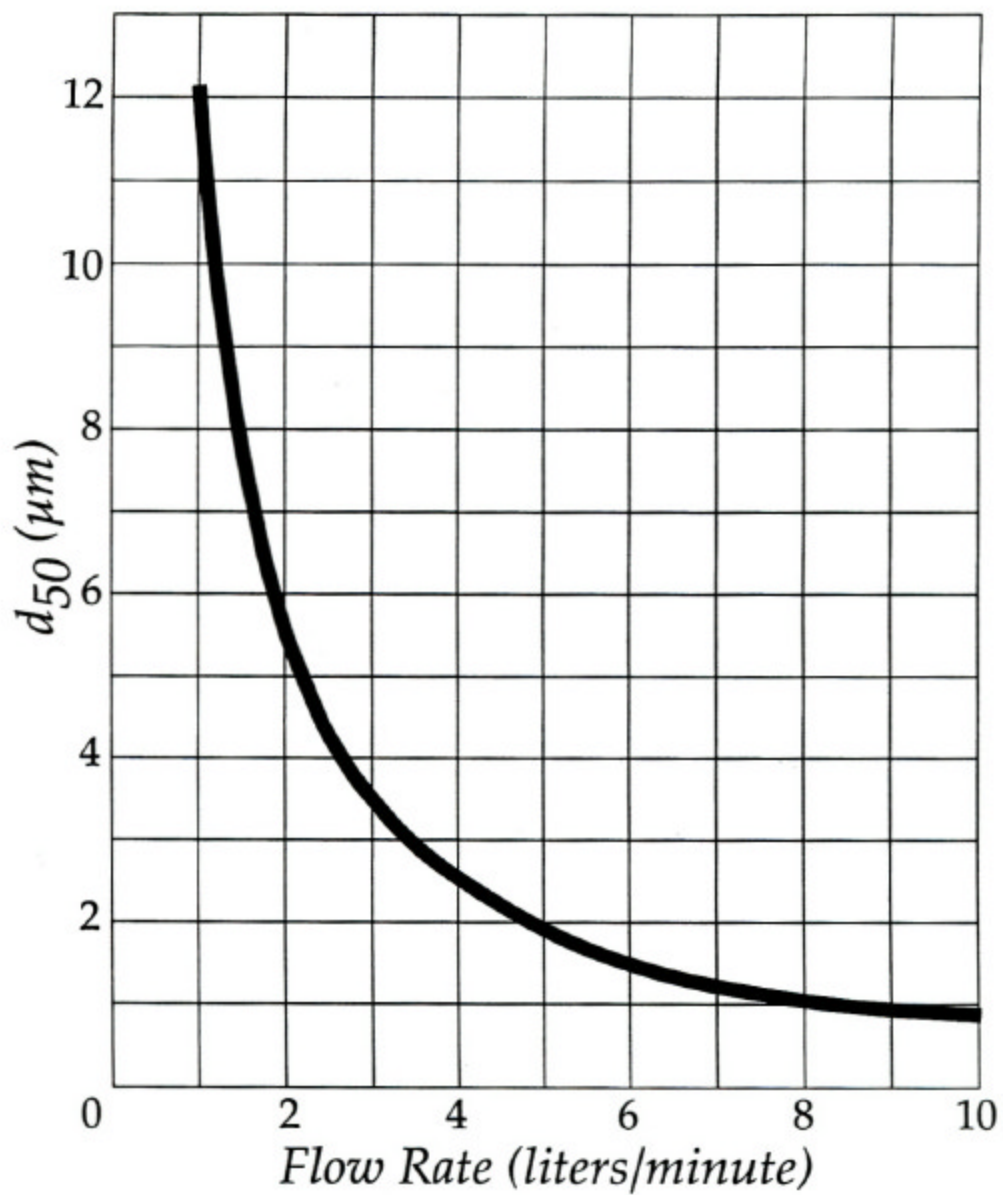

Figure 7. GK 2.05 Cyclone Cut Point (d_{50}) as a Function of Flow Rate
The *pDR-1200* can be used to monitor a specific particle size fraction below a selectable cut off equivalent aerodynamic diameter. The particle size cut point can be selected by adjustment of the sampling flow rate. The higher this flow rate through the cyclone the smaller the cut off particle diameter. Figure 7 is a graph showing the dependence of the particle cut off size in micrometers as a function of the sampling flow rate in liters per minute. The cut off size is the particle aerodynamic diameter at which the collection efficiency of the cyclone is 50%, or conversely, the size at which the cyclone transmission is 50%. For example, to obtain a particle size cut off of 2.5 μm (i.e., $\text{PM}_{2.5}$), the required sampling flow rate is 4 liters/minute. At that flow rate only particles smaller than (approximately) 2.5 μm are allowed to pass into the *pDR-1200* sensing stage, to be monitored and then to be collected on the filter.
As can be seen on Fig. 7, the lowest particle size cut for the GK 2.05 cyclone included with the *pDR-1200* is about 1 μm , and the largest is about 12 μm . For particle size classification outside this range, consult with the factory.
One simple procedure to determine the median particle size is as follows (please refer to the graph of Fig. 7):
- Enter the final flow rate for which the TWA value is one-half of the initial value into the graph of Fig. 7 and read the corresponding d₅₀ particle size in micrometers. This represents the mass median particle diameter of the aerosol.
For example, if the TWA value without the cyclone was 0.8 mg/m³, and the flow rate (with the cyclone attached) required to reduce the TWA to 0.4 mg/m³ is 2 liters/minute, the mass median particle size (as obtained from the curve of Fig. 7) is approximately 5.5 μm.